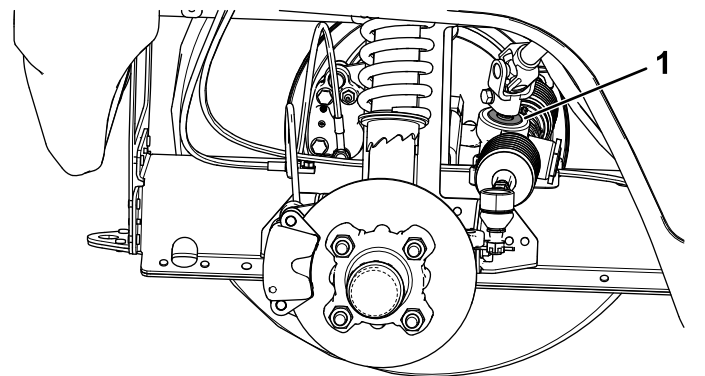

Figure 55
- Important:** Inspect the condition and security of the pinion-shaft seal (Figure 55).